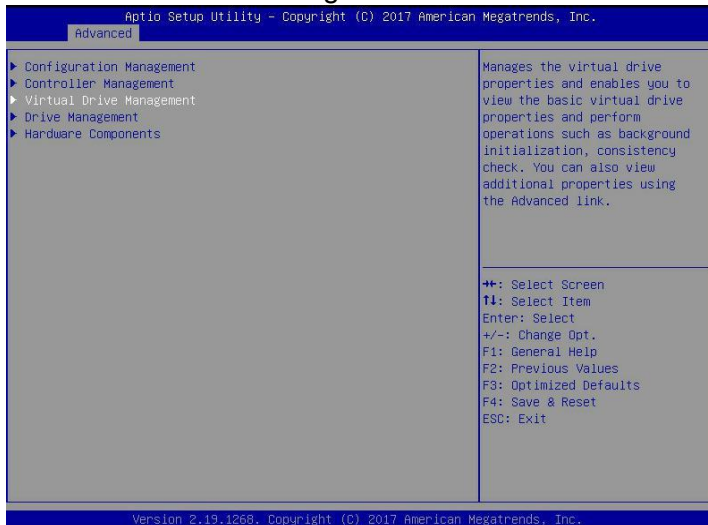

Figure 6-65
- a) As shown in Figure 6-65, select Virtual Drive Management on the RAID card configuration interface, and press Enter.
❖ Figure 6-65 RAID card configuration interface